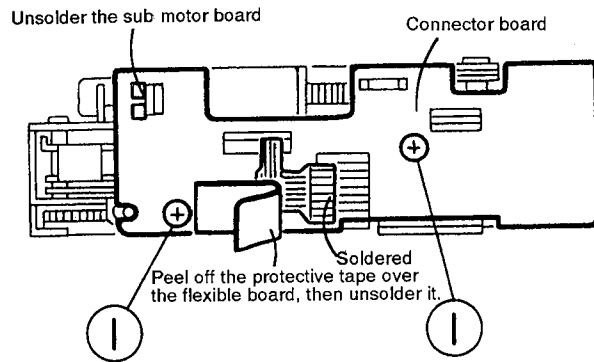

Fig. 4-10 (Viewed from the right side)
■ Connector board (See Fig. 4-10)
- 3) Remove two screws ① securing the connector board, then remove it taking care not to break the flexible board.
■ Load arm ass'y (See Figs. 4-10~4-12)
- 1) Remove the C washer ② securing the load arm ass'y.
- 3) Turn the load arm ass'y in the rear direction, then disengage the load arm from the catch (K).
- 5) Remove two screws ③ securing the sub chassis.